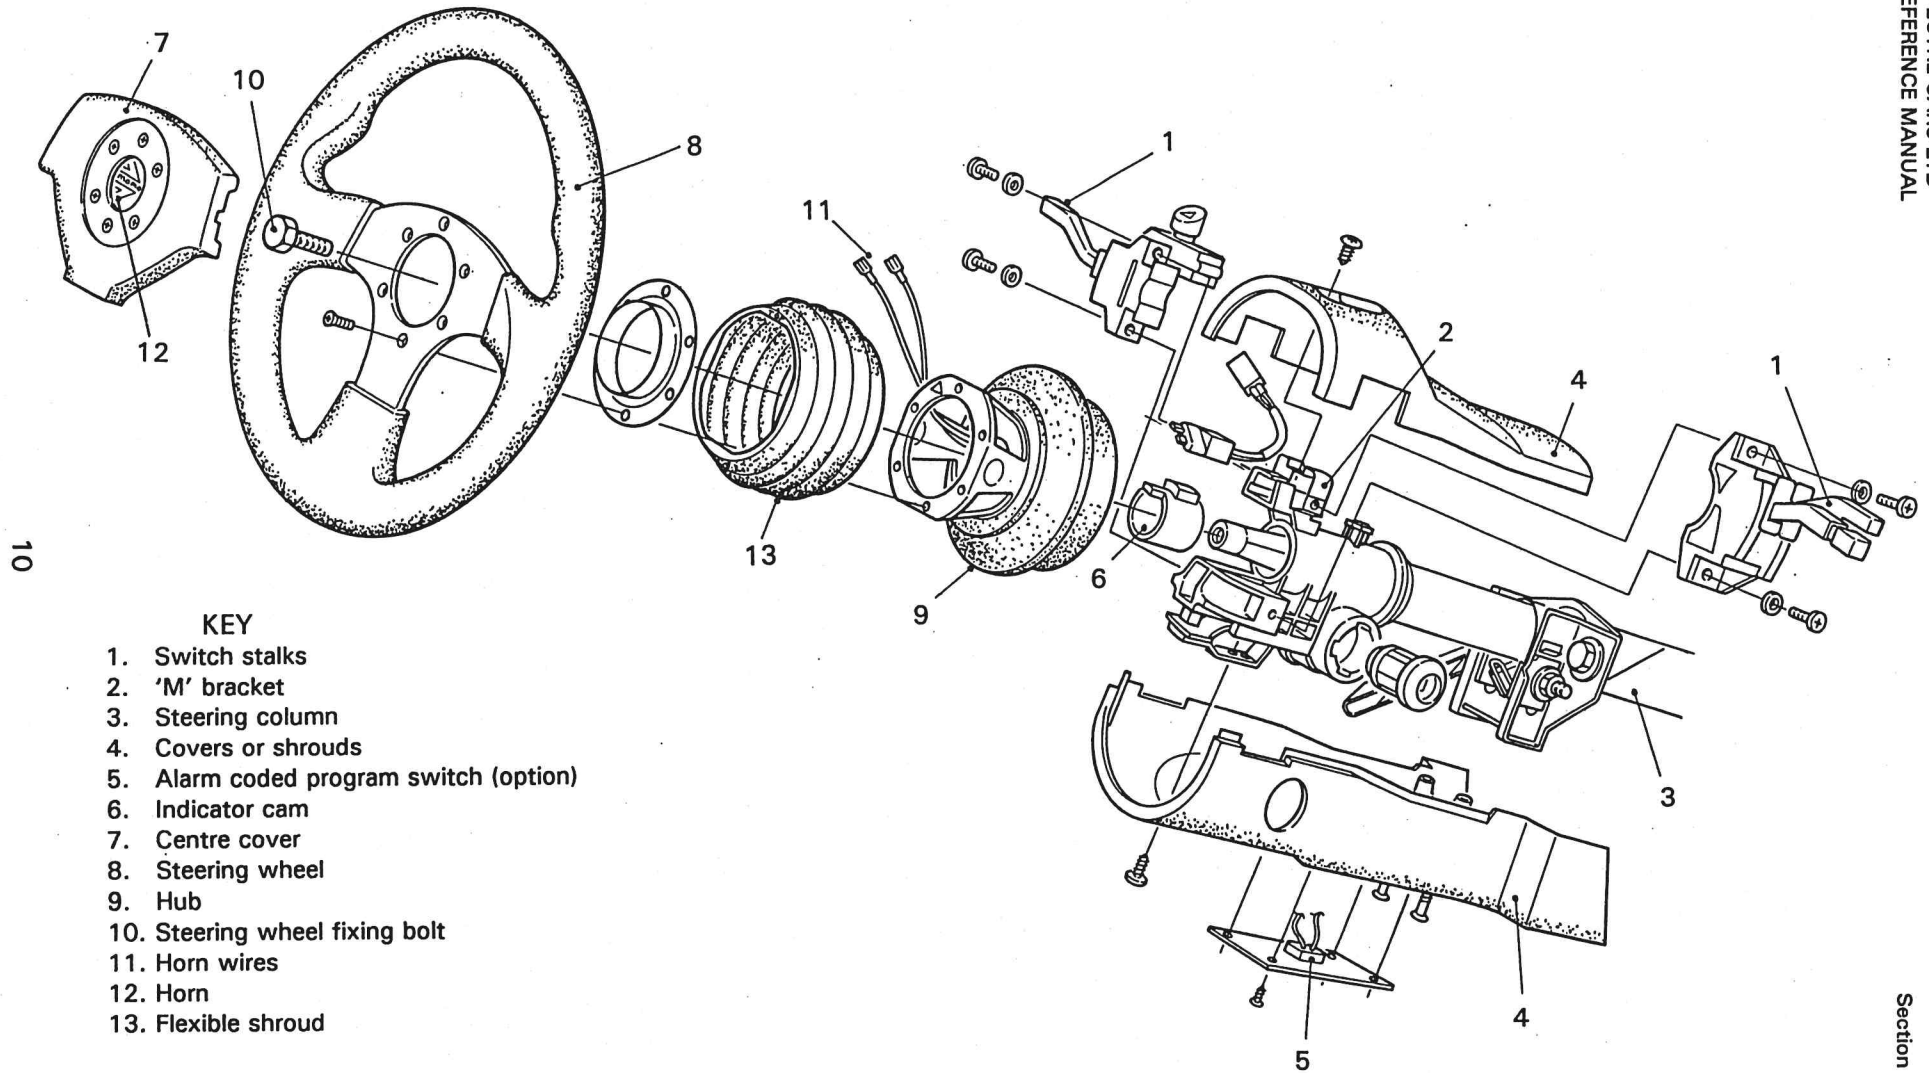

Fig. 3 Steering Wheel and Switch Stalk Assembly to Steering Column
1. Refer to Fig. 3. Fit the switch stalks (1) units by first removing the 'M' bracket (2) from the top of the steering column (3). Fit the two sets of switch stalks and refit the 'M' bracket. Fix in position using the screws provided.
3. Place the upper and lower column covers, or shrouds (4), around the column. Secure the bottom cover using the three screws provided and the top cover using the single screw. A plate housing the coded program switch (5) for the optional alarm system, if fitted, has to be screwed to the underside of the cover using four 10 x $\frac{3}{8}$ in. self-tapping screws.
4. Fit the indicator cam (6) onto the steering column with cam located at the 9 o'clock position.
5. Remove the leather centre cover (7) of steering wheel (8).
7. Bolt hub (9) from kit into centre of wheel with hub mark at the top centre position. Use the six hexagon bolts supplied.
10. Bolt wheel onto steering column using bolt supplied (10) and tighten to torque.
11. Connect horn wires (11) and press horn (12) into steering wheel aperture with the flexible shroud (13) in position.